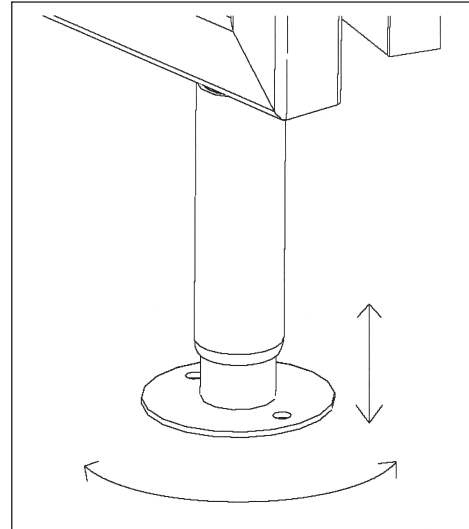

Figure 1 Leg Adjustment
4. Place cabinet on level floor. (For cabinets with legs, adjust the legs of the cabinet to ensure proper fit of rack into cabinet. See Fig. 1)